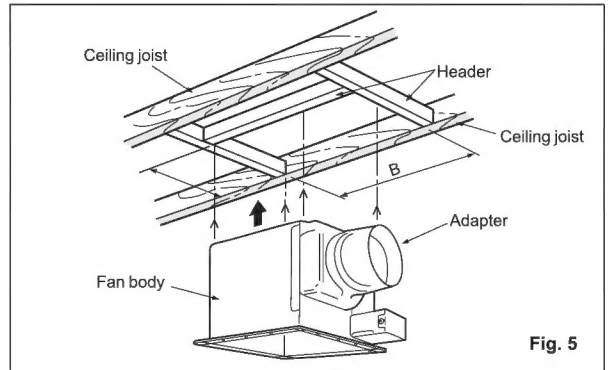

Fig. 5
1. Install header between ceiling joists using nails or screws. (Fig. 5)
2. Install the ventilating fan to the header with long screws (ST4.2X20). (Figs. 5 & 6)